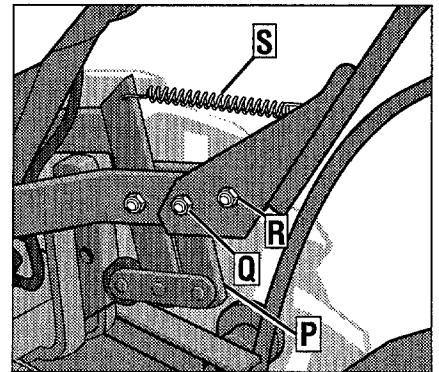
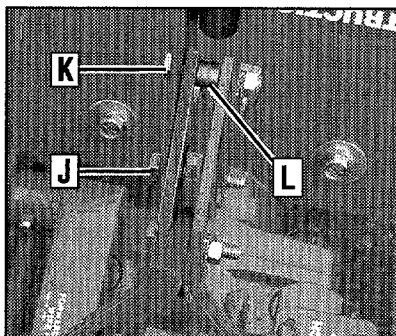
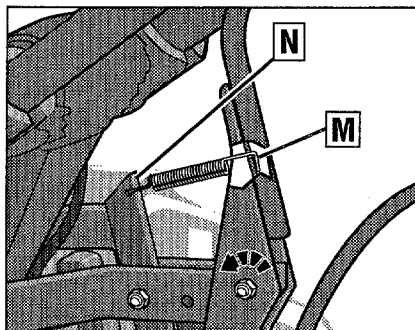

Figure 2-9: Fully assembled Wheels/Tines/PTO Lever assembly.
Figure 2-7: Drive Lever assembly.
Figure 2-8: Clutch pawl spring. Tilt Wheels/Tines/PTO Lever fully forward before installing spring.
3. Slide the plates at the end of the Wheels/Tines/PTO Lever over the yoke plates (Figure 2-9). To aid in the next step, insert a screw temporarily into the forward most holes (J, Figure 2-7) of the yoke plates and the lever.
5. Retrieve the clutch pawl spring (Figure 2-8) from hardware bag.
Remove the temporary screw (J, Figure 2-7) from the forward holes and move the Wheels/Tines/PTO Lever fully forward. Install the wider hook end of the clutch pawl spring (M, Figure 2-8) down into the small hole at the end of the handle. Use pliers to insert the other end into the hole in the long link bar (N).
6. Pull the Wheels/Tines/PTO Lever back to align the forward most holes (Q, Figure 2-9) in the yoke plate with the holes in the lever plates. Also align the bushing that is inside the short link bar (P). Install the screw, star washer, and nut, then tighten securely.
Securely tighten all other hardware (Q, R, Figure 2-9). Also ensure that the spring (S) is properly seated at both ends.
Completed assembly should appear as illustrated in Figure 2-9.